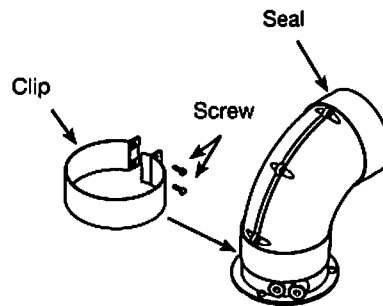

Fig. 6
8. Remove the screws from one of the clips provided. Prise the clip apart and fit it over the seal (Fig. 6). Set the elbow to the required angle.